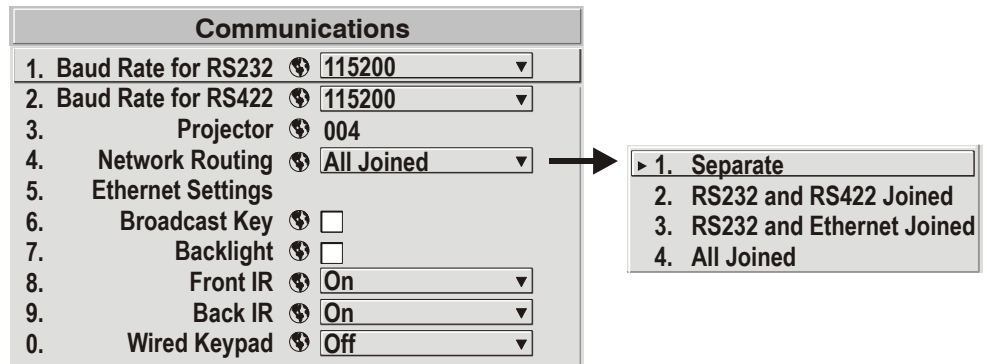

Figure 2.36. Keeping Communications Separate (default)
- Separating Networks** ▶ By default, communications originating from one type of serial controller—RS232 vs. RS422 vs. Ethernet—stay on the corresponding network path. A “Separate” setting indicates this separation for “Network Routing” in the *Communications* menu. If you are using an RS422 controller, for example, it will communicate only with the projector to which it is connected unless you change this setting to either “RS232 and RS422 Joined” or “All Joined” (Figure 2.36).